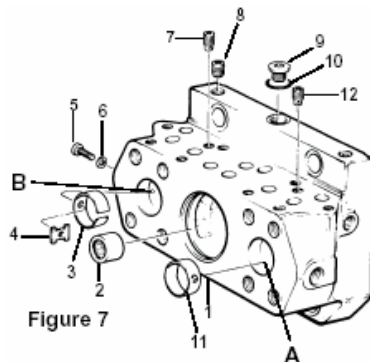

Figure 7
See Figure 7. Position the port block (1) on a clean flat surface with the two open ports up. **THE OPPOSITE FACE MUST NOT BE SCRATCH OR DAMAGED.** Position needle bearing (2) on tool (figure T-5) with the marked end of the bearing against the shoulder on the tool and press the bearing (2) into the port block. The bearing must be .010" - .025", 0,254 - 0,635 mm below the surface.
PARTS LIST FOR FIGURE 7